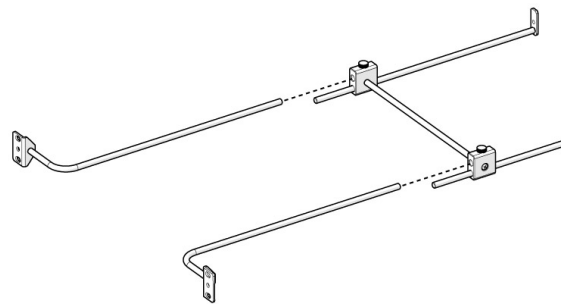

Figure 7. Rear rack mounting poles
Step 3. Insert the two rear rack mounting poles into the top holes of the adjustment blocks (see Figure 7).